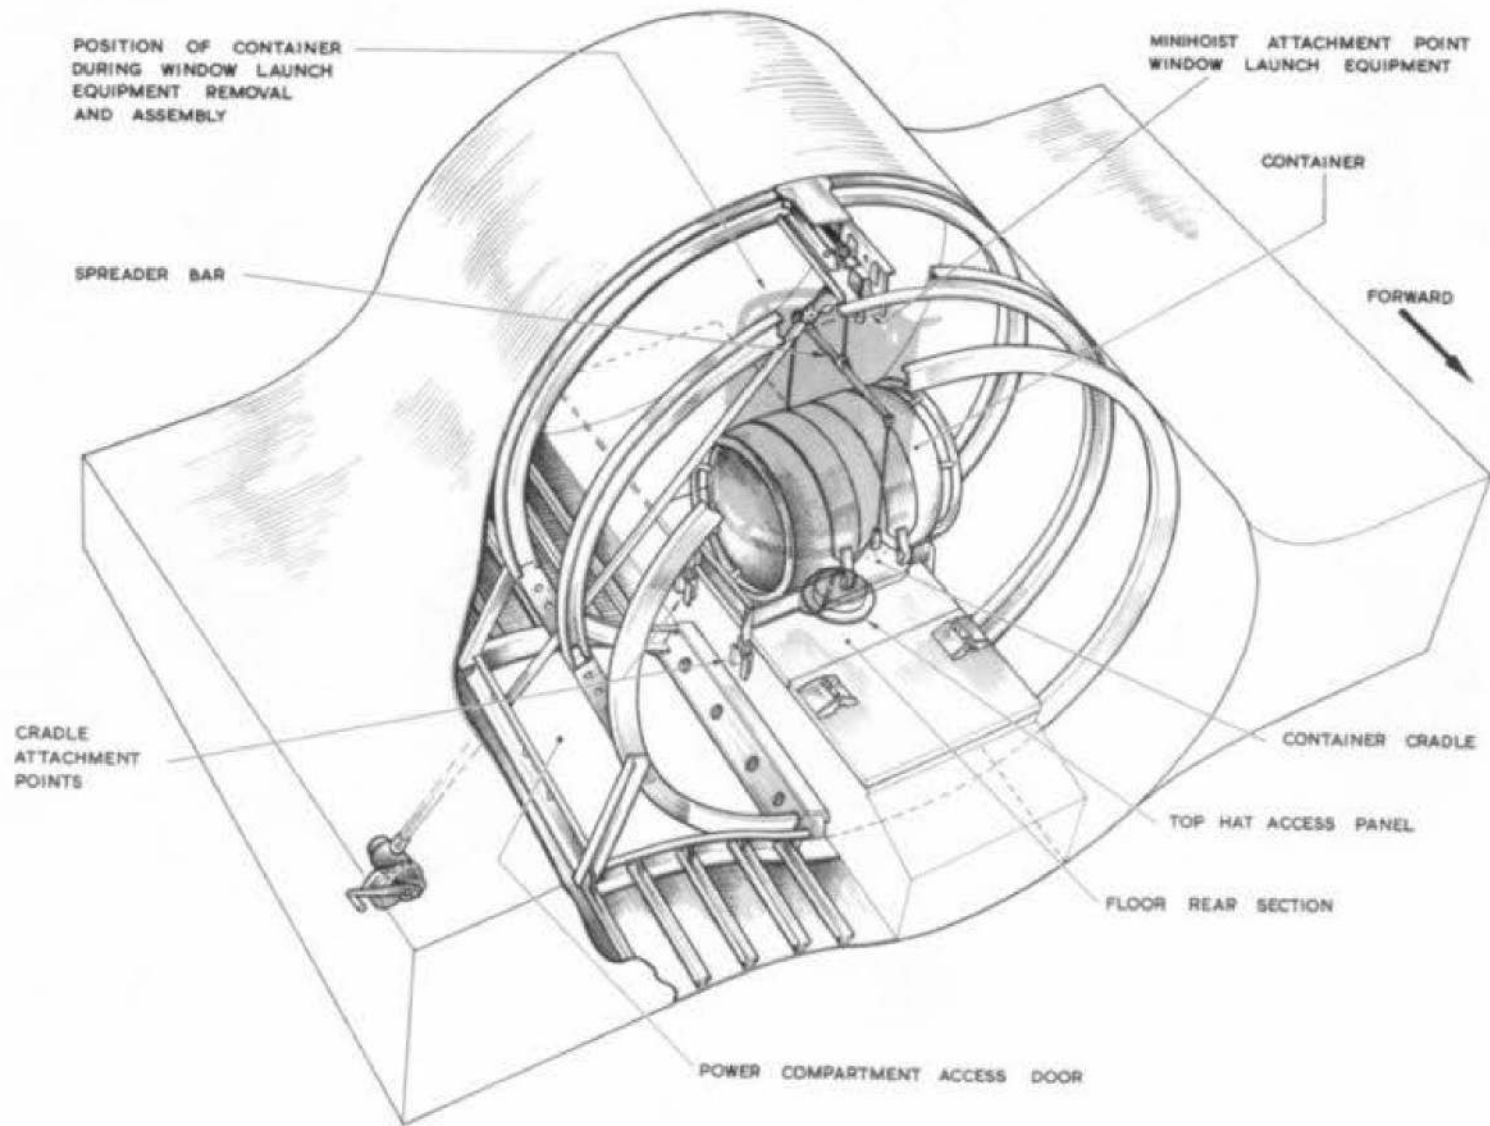

Fig.1, Fitting Type A container
29. To fit a Type A container and carrier in the aircraft power compartment proceed as follows. Fig.1 illustrates the fitting of the container and carrier.